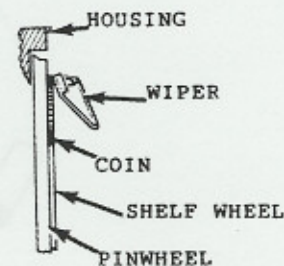

Figure 4-4
- 1) Loosen the coin wiper retaining screws. See Figure 4-4.